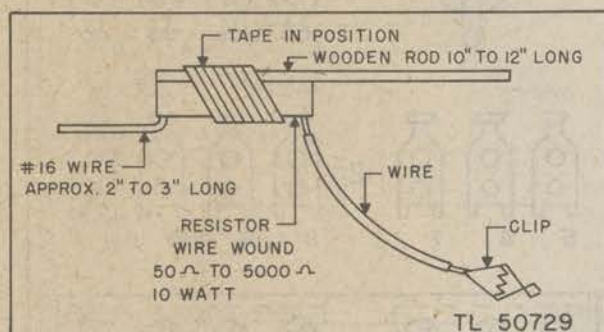

Figure 10. Device for discharging high-voltage capacitors.
b. Prepare the following device for discharging the high-voltage capacitors (fig. 10):
(1) Fasten a *wire-wound* resistor (50 to 5,000 ohms, of at least 10-watt rating) to a wooden dowel rod, or to a rod of any equivalent insulating material.
(2) Attach a wire to one end of the resistor.
(3) Attach a battery clip to the wire.
(4) Attach a No. 16 wire to the other resistor lead.